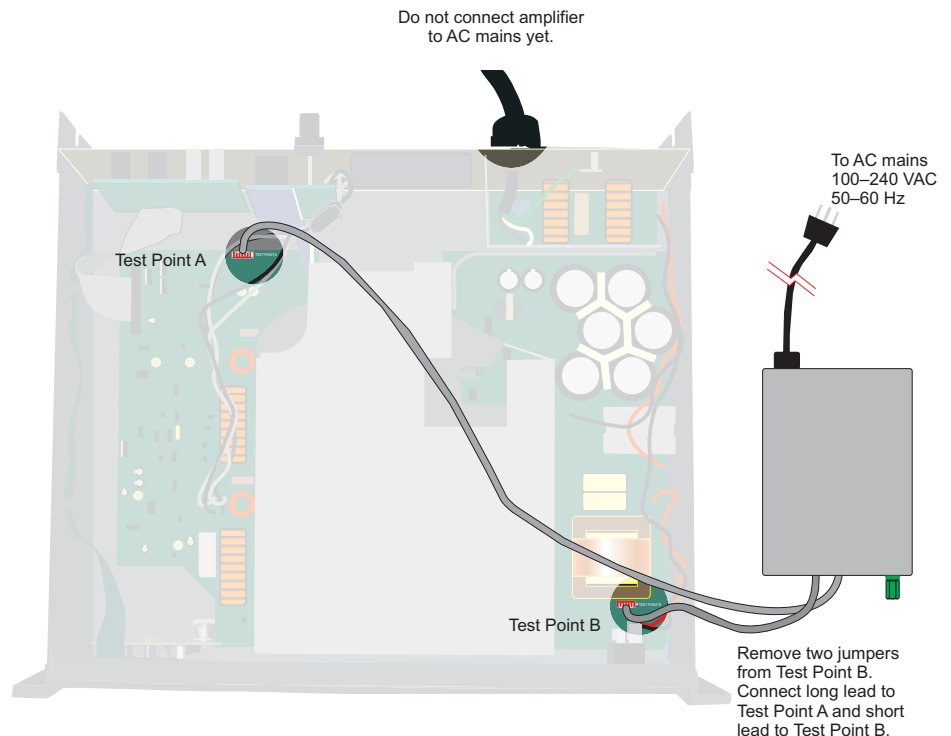

Figure 1.11. Connecting the hookup leads
8. Remove the two jumpers from Test Point B (Figure 1.11). Set them aside to be re-installed later.